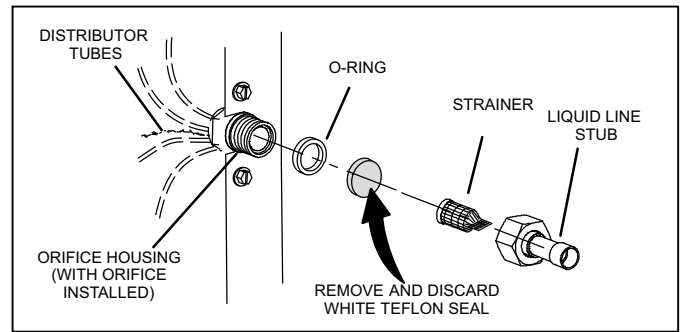

Figure 8. Typical Fixed Orifice Removal
4. Remove and discard orifice, valve stem assembly if present and Teflon ring as illustrated in figure 8.